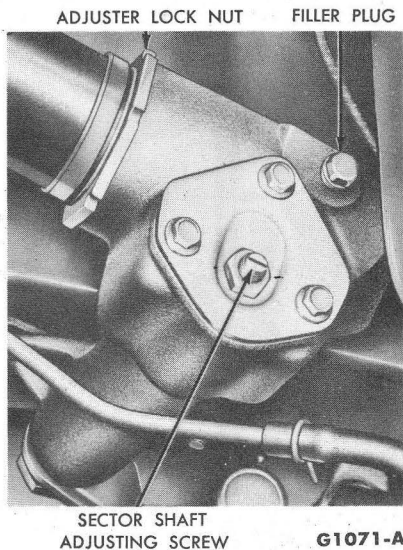

FIG. 1—Steering Gear Adjustment
6. Loosen the nut which locks the sector adjusting screw (Fig. 1), and turn the adjusting screw counter-clockwise.